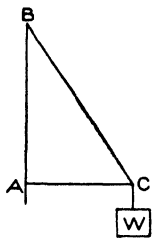

Fig. 20.
32. Suppose we have given a right triangle frame BAC as shown in Fig. 20. A weight W is hung at C . It is desired to know the forces exerted by BA , AC and BC , in order that the frame may be held rigid. Since the three forces at C , namely the weight W , and the forces in AC and BC are in equilibrium, by article 30 we may construct a triangle BAC with sides parallel and proportional to these forces. That is BA must be proportional to the weight W .
In order to illustrate the principle of Fig. 20, the following experiment was performed:
A weight of 10 lb. was hung at C , Fig. 20. The sides of the triangle were measured and found to be $AB = 59.8$ cm., $AC = 34.5$ cm., $BC = 69$ cm. The weight W is fastened to a string BC . A spring balance is attached at C , and a horizontal pull exerted sufficient to lift the string away from AC . The balance read $5\frac{1}{2}$ lb. The balance
1. Suppose in Fig. 20, A B = 36.7 cm. A C = 34.5, B C = 50.1. With a weight of 10 lb., find the forces in A C and B C
2. A weight of 50 lb. is attached to the rope B C, Fig. 20. The rope B C makes an angle of 30° with A C. Find the tension in the rope and the push on the brace A C.